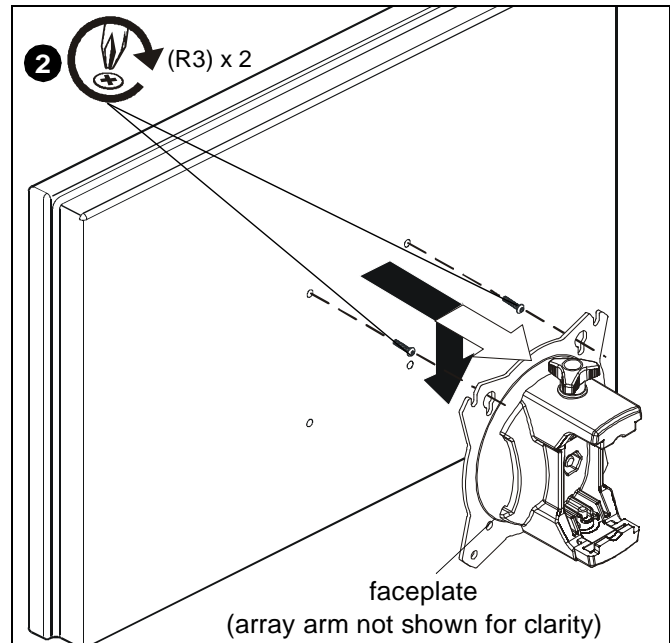

Figure 11
2. Using Phillips screwdriver, carefully install two M4 x 12mm Phillips pan machine screws (R3) into the *upper* mounting holes on the display. Thread screws completely into display, then back out 3 complete turns. (See Figure 11)
3. Pick up and align display so that screws (R3) (installed on the back of the display in the previous step) fit into the mounting holes on the faceplate. Lower the display firmly into place. (See Figure 11)